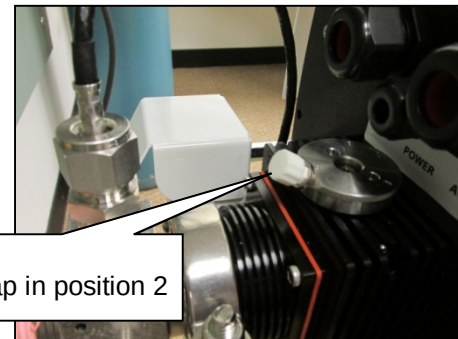
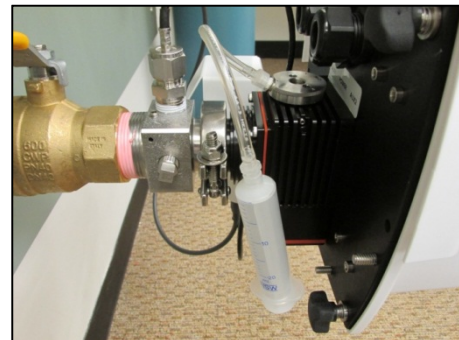

Figure 16: Luer Fitting Cap
Figure 17: Syringe Attachment
2) Rotate the bleed selector clockwise to position 2, exposing the Luer fitting. Unscrew the white cap from Luer fitting (**Fig 16**). Connect the supplied Tygon tube to the supplied syringe. Secure the other connector on the end of the tube onto the Luer fitting (**Fig 17**). Return the bleed selector to position 1.